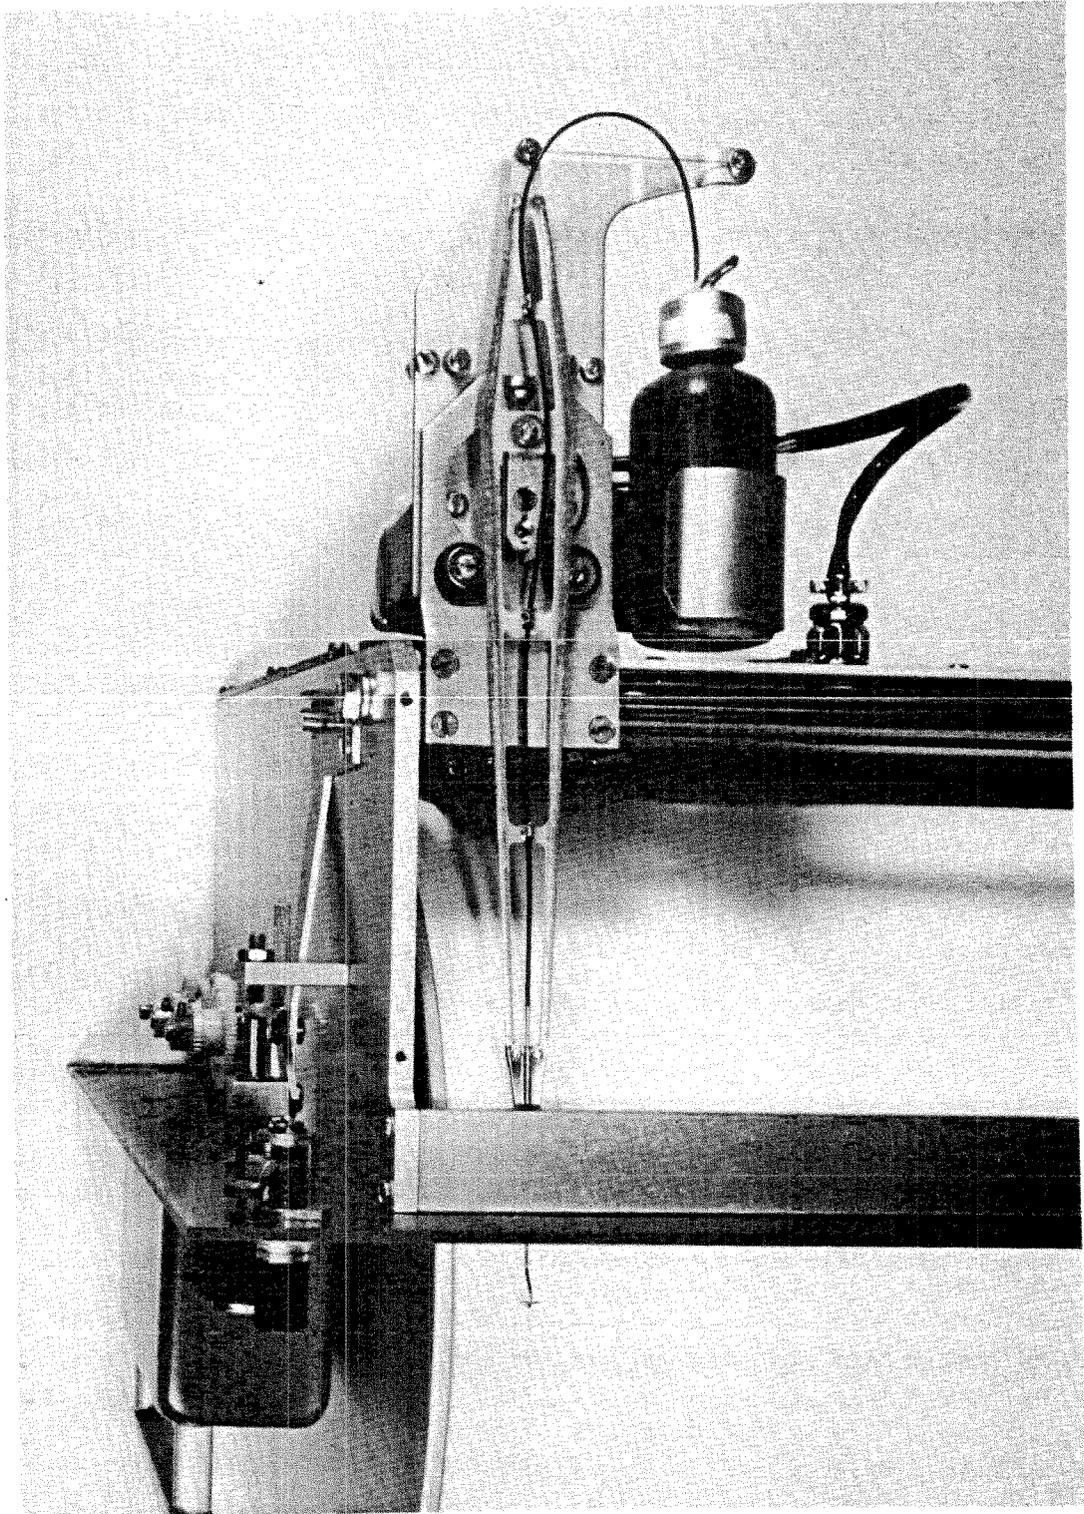

Figure 4-4. INK PEN INSTALLATION VIEW
a. Install the pen arm and ink pen assembly with the hardware supplied. Figure 4-4 is a photograph of a single ink writing pen installation.